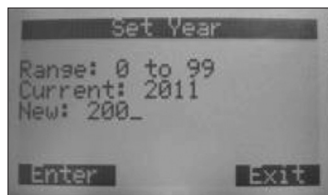

Figure 3 – Date Menu, Set Year Function
- Password: This menu is used to reset the password. The factory default password is 0000. Reset the password using any four (4) numeric characters.
- Date: Set the date, including year, month, and day. See Figures 3, 4 and 5.